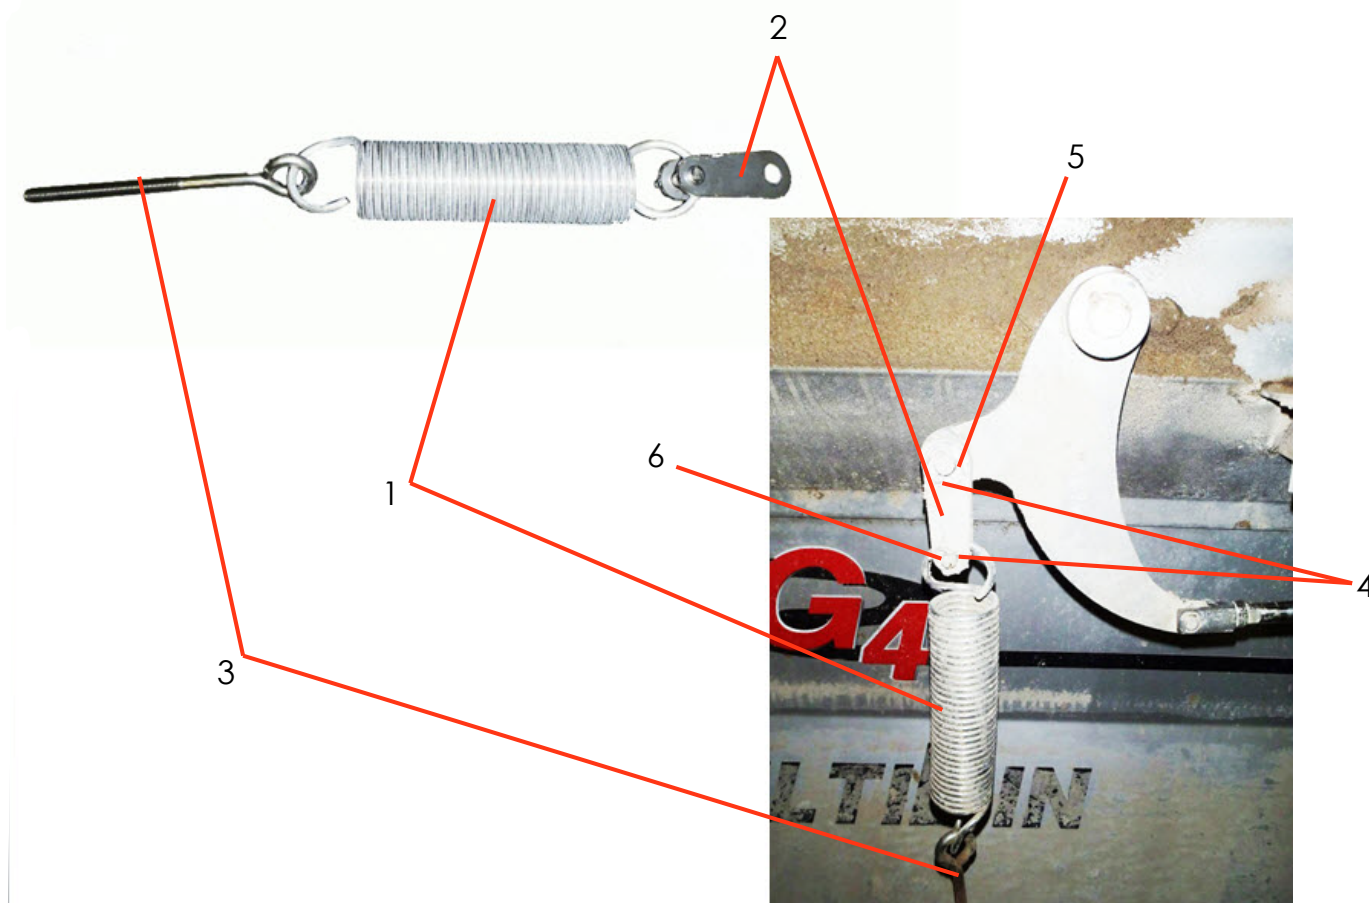

Figure 12
12. Figure 12 - Install original spring eyebolt (3) and new longer clevis plates (2) onto new spring (1), reusing original hardware (4-6). Install new spring assembly using original clevis pin (6), cotter pin (4), and washer (5).